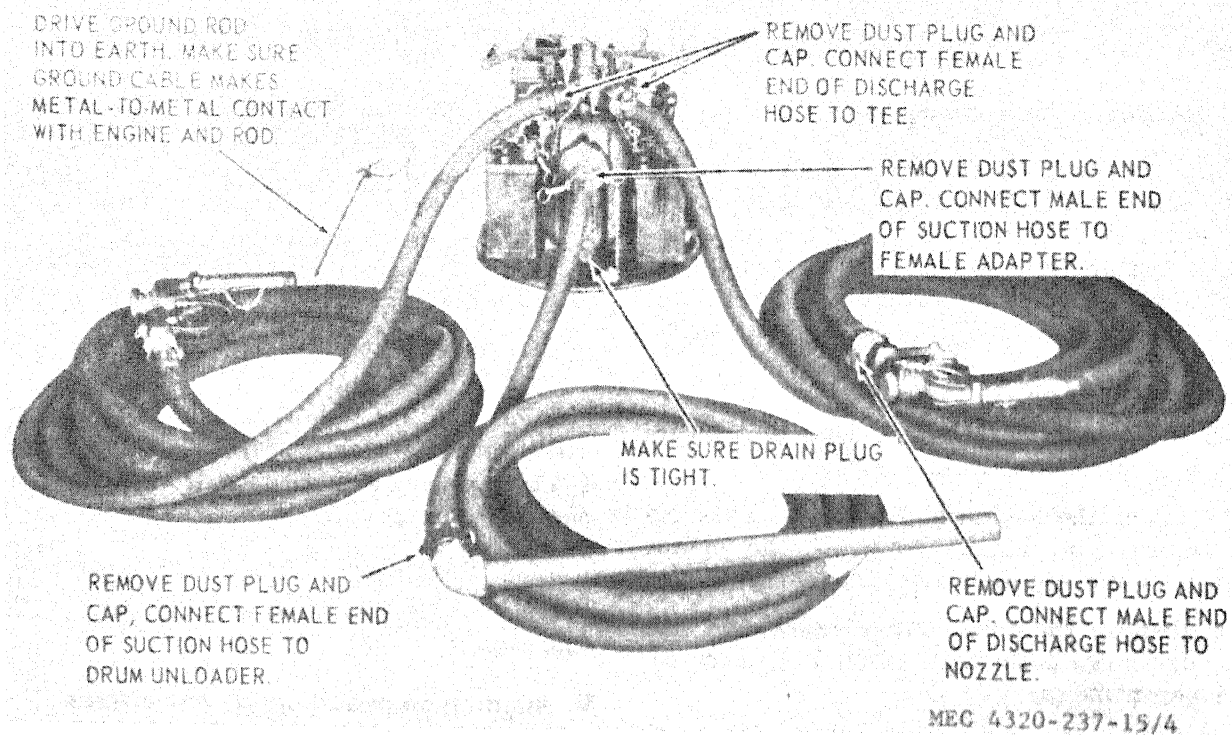

Figure 4. Pump installation and setup.
b. *Outdoor Installation.* Refer to figure 4 for installation and setup instructions.
- Reverse the installation procedures illustrated in figure 4. Thoroughly drain all hoses. Install dust plugs and caps on hoses and fittings.